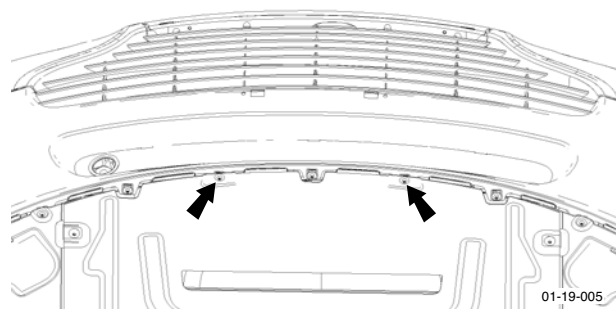

Figure 1
4. Remove screws (x2) securing front of undertray to bumper (see Figure 1).